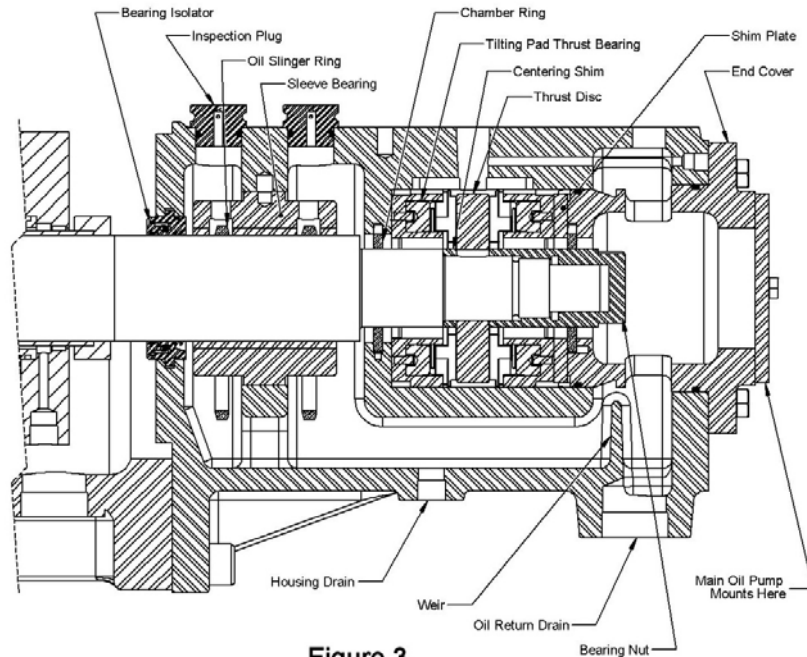

Figure 3
- **Pressurized lube system:** This system involves an external lube oil pump with a reservoir and filtering system. The oil is circulated through the lube oil reservoir, through a heat exchanger, then through the filtering system, then to the bearing housings. From the bearing housings, the oil drains back into the reservoir. This type of system will be fitted with controls to monitor pressures and temperature and shut the unit down in the event of a failure in the system. Oil rings will be utilized in most cases on the sleeve bearings for coast down of the pump. Tilting pad bearings will always be pressure fed. See Figure 3 for typical housing arrangement.